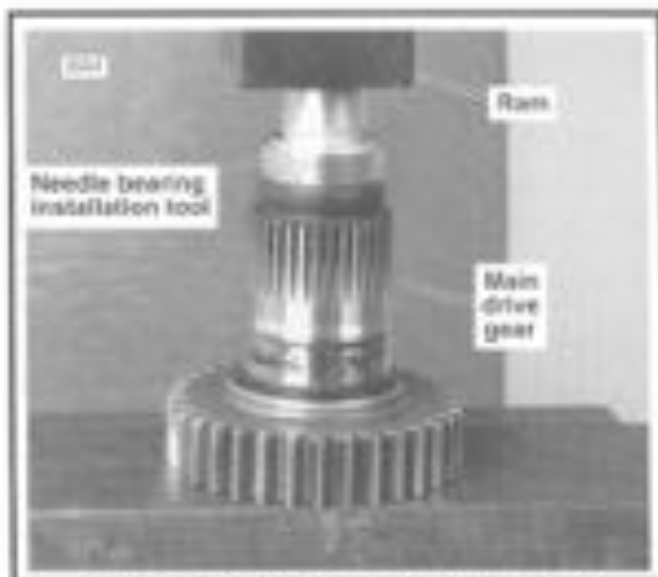

Figure 6-46. Needle Bearing Installation Tool
1. Use INNER/OUTER MAIN DRIVE GEAR NEEDLE BEARING INSTALLATION TOOL (Part No. HO-37842A). See Figure 6-46. The tool is stamped 0.080 in. (2.032 mm) for the end of the tool to be used for driving the bearing into the inner end and 0.315 (8.001 mm) for the outer end bearing.